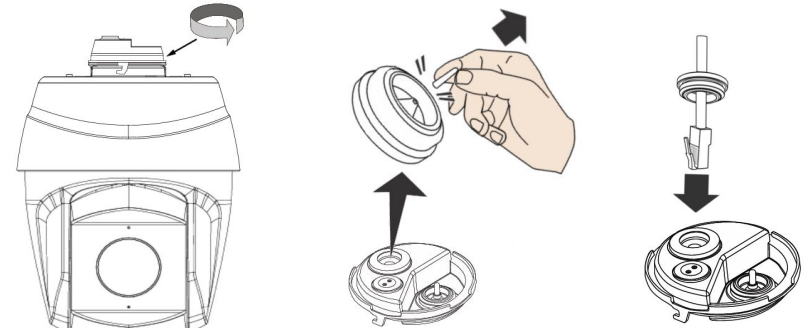

Figure 1-3
Step 3 Twist the cable passthrough plate counter-clockwise to unlock, then separate the plate from the camera. Remove the appropriate grommet for your cable type, then snip off stopper plug. Thread cables through the grommet. Reinstall the grommet and ensure it is properly seated. See Figure 1-3.